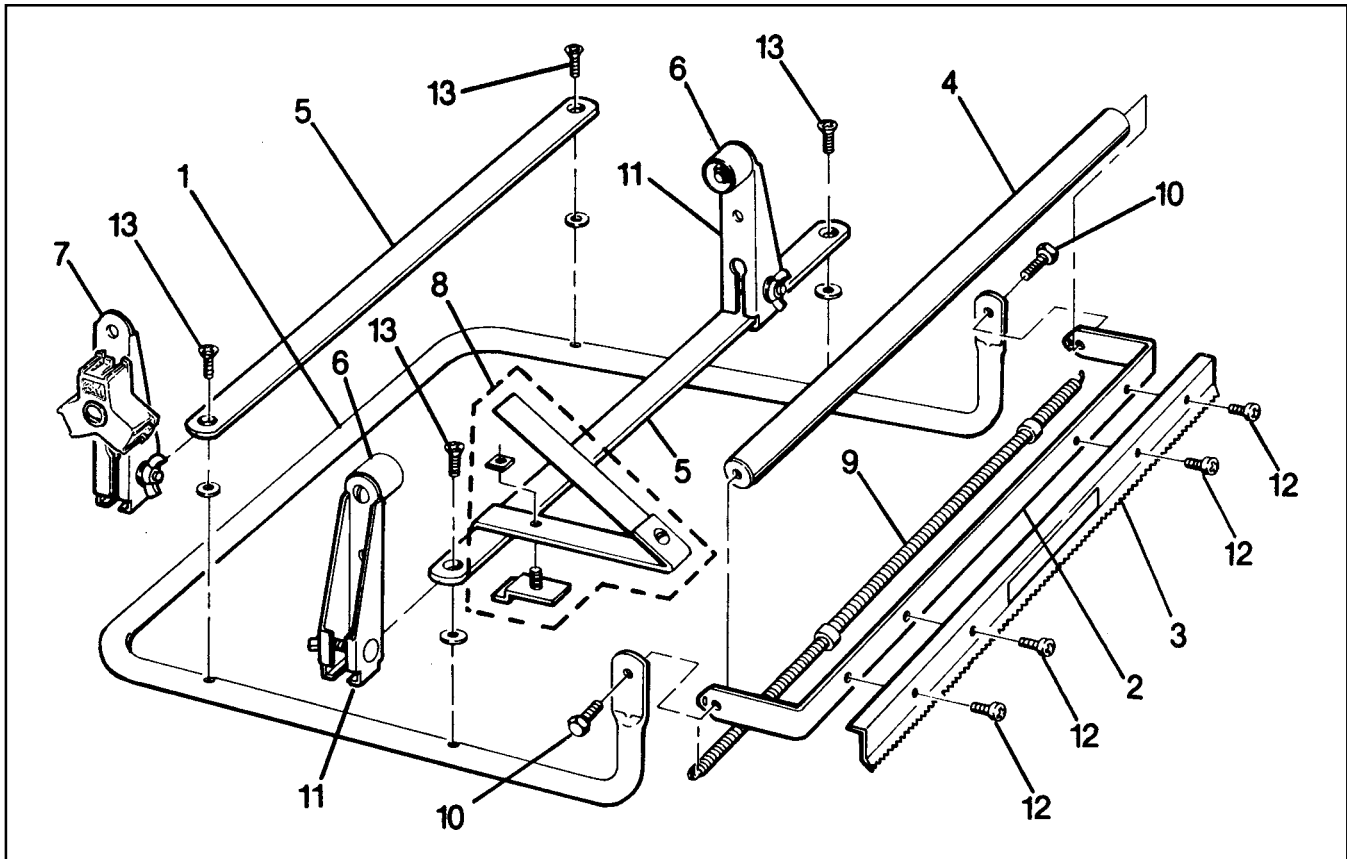

Figure 5 – 6865-6866 Replacement Parts
1. Refer to Parts Illustration Figure 5 to find part needed and reference number.